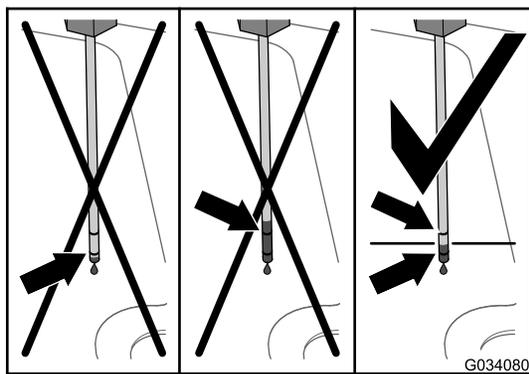
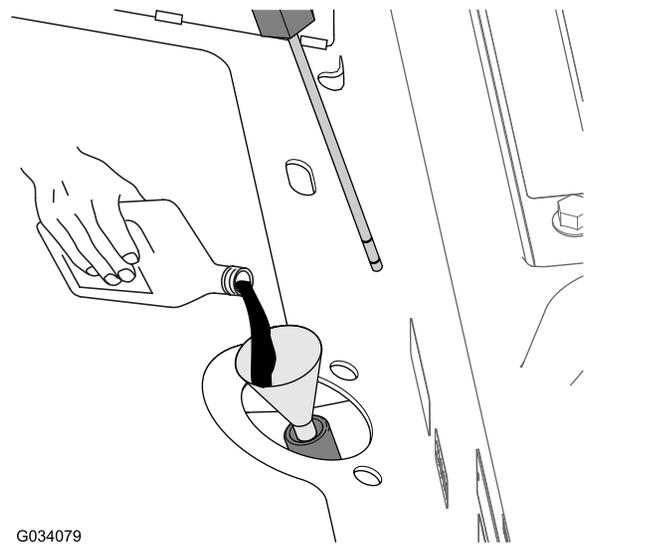

Figure 81
Figure 82
4. Remove the dipstick and check the fluid level (Figure 81).
5. If the fluid level is below the lower mark of the dipstick, add the specified hydraulic fluid into the fill tube (Figure 82) until fluid level rises between the upper and lower marks when checked with the dipstick (Figure 81).
6. Add the specified hydraulic fluid into the fill tube (Figure 82) until the fluid level in the transaxle housing (reservoir) shows at the midpoint between the upper and lower marks of the dipstick (Figure 81).